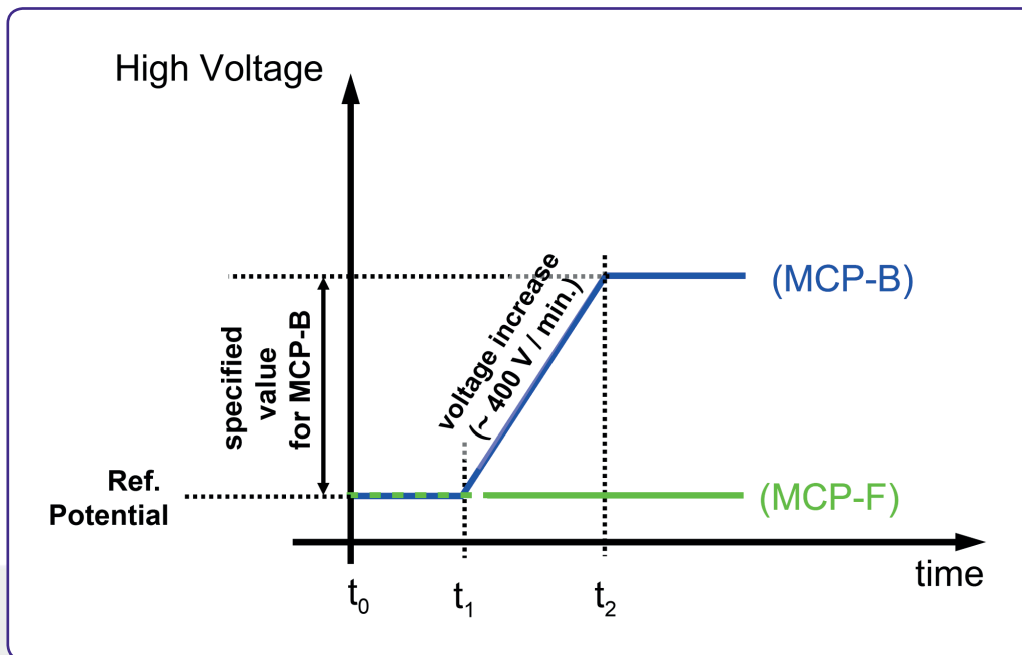

Figure 2: Schematic sketch on voltage ramping during "Start-Up" procedure.
- Turn on the high voltage carefully. The voltage increase should not exceed 400V per minute. A schematic sketch on how to ramp the voltages during the "Start-Up" procedure is given **Figure 2**. The starting operation voltage is specified in the specification sheet of the detector.